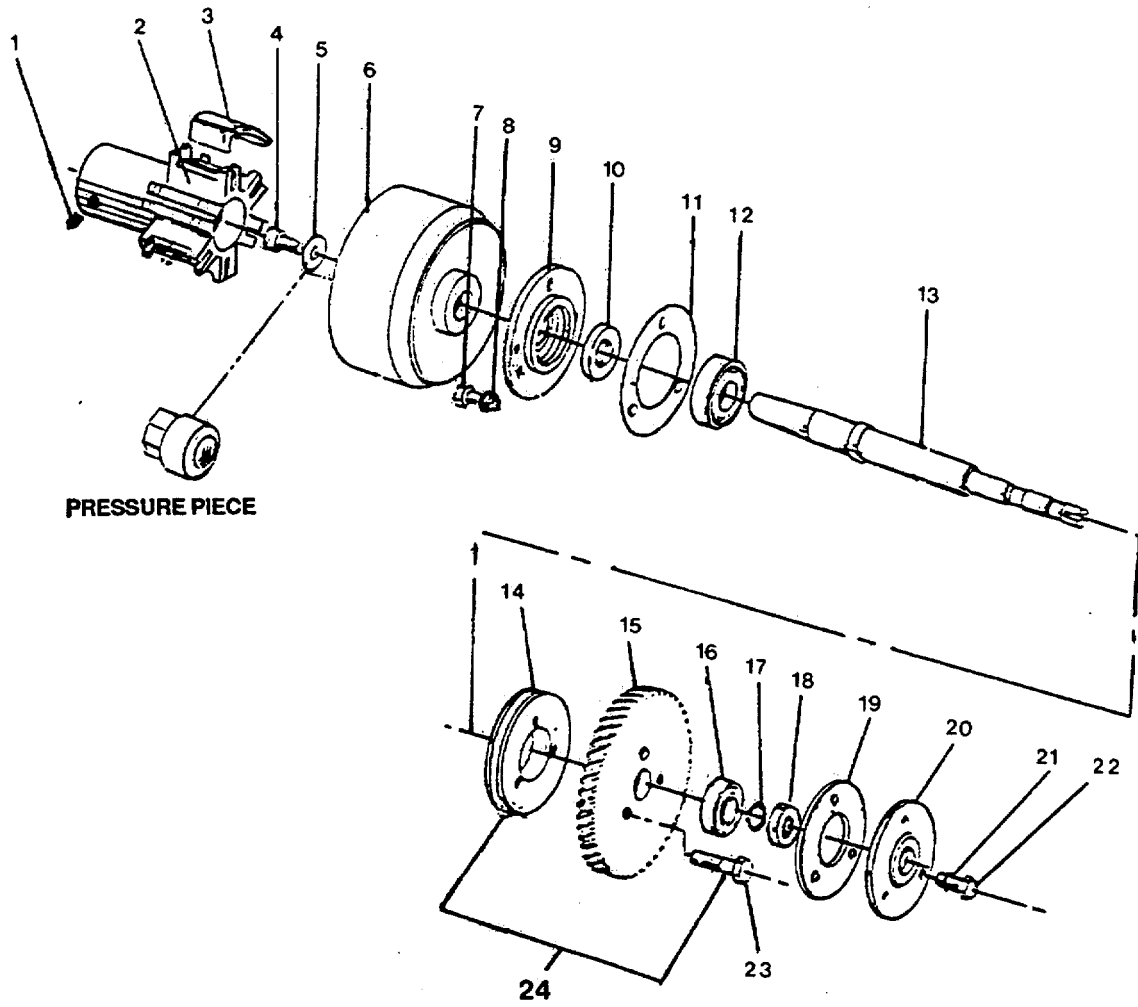

FIGURE 3-13. Horizontal Gear Assembly.
Refer to Figure 3-13 for remaining removal procedures.
- a. Use arbor press to install grooved ball bearing (16, Figure 3-13) on pump side of housing.
- b. Use arbor press to install grooved ball bearing (12) on worm wheel shaft (13).
- c. Position worm wheel assembly (24) in housing.
- d. Insert worm wheel shaft (13) into housing from motor side and worm wheel assembly (24), grooved ball bearing (16) and through opening on pump side of housing.
- e. Install retaining ring (17).
- f. Install sealing ring (18) gasket (19) and bearing cover (20) to housing on pump side and secure with three machine screws (22).
- g. Install machine gasket (11), sealing ring (10), and bearing cover (9) to worm wheel assembly (24) on motor side and secure with three lockwashers (8) and machine screws (7).
- h. Position clutch drum (6) on worm wheel shaft and secure with flatwasher (5) and socket head screw (4).
- i. Loosen threaded pin (1) and install clutch driver (2) and clutch shoes (3) into clutch drum (6) and on worm wheel shaft.
- j. Slide worm wheel (15) left to engage with worm spindle (not shown).
- k. Secure worm wheel to worm wheel assembly (24) with three machine screws (23) on worm wheel. Hold clutch drum (6) to prevent worm wheel shaft from turning.